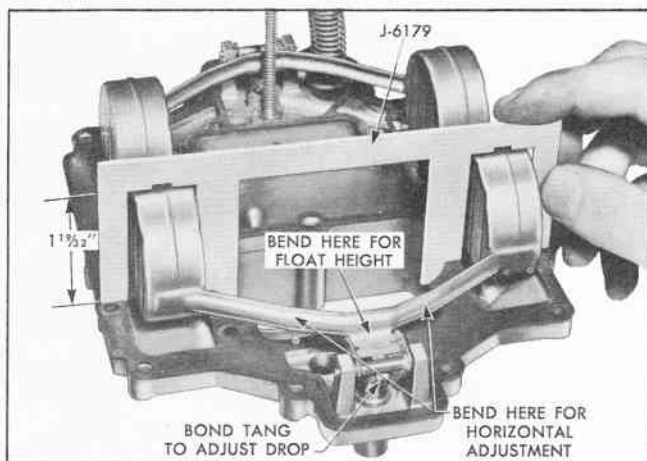

Fig. 21 Checking Float Level
1. With air horn gasket in place, position float level gauge J-6179 over floats so that gauge is located against the curvature in bore of the carburetor air horn (Fig. 21).
2. Bend float arms at center as shown in Fig. 21 so floats just contact gauge. The vertical height should be 1 19/32".
2. If adjustment is necessary, bend float tang toward float needle seat to lessen drop and away from seat to increase drop (Fig. 21).